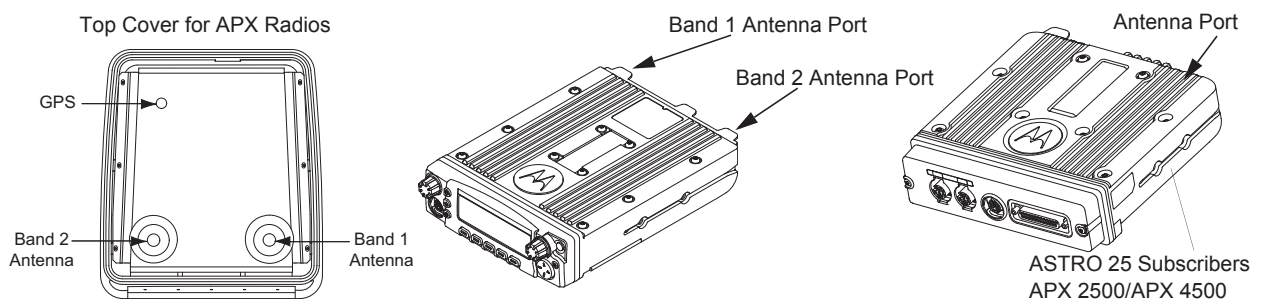
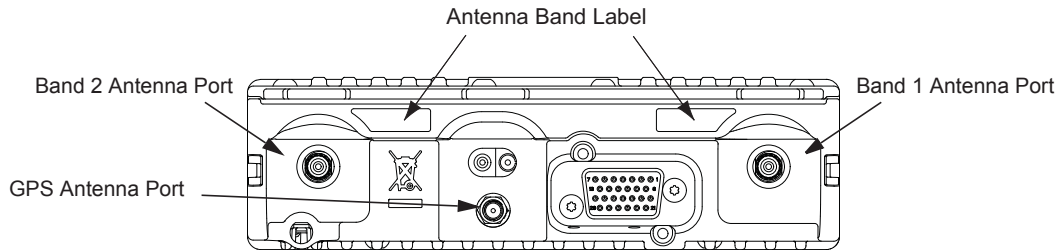
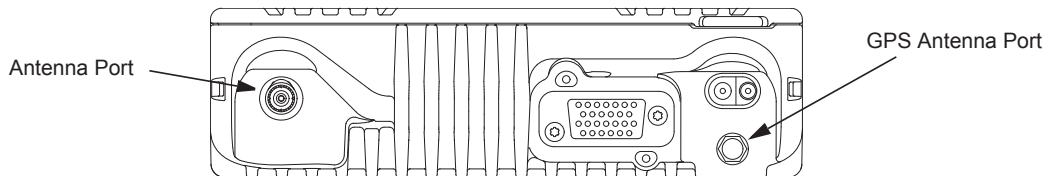
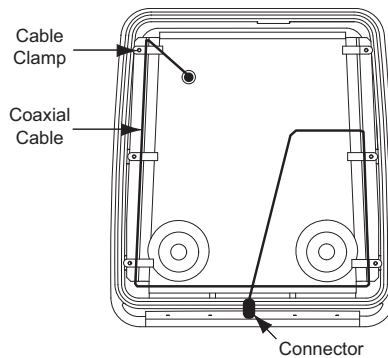

Figure 5-8. Location of Band 1 or Band 2 (Depending on the Antenna Port They Align to)
Figure 5-9. Antenna Band Identification
Figure 5-10. APX 2500/APX 4500 Antenna Band Identification
Figure 5-11. Routing the Coaxial Cable for GPS
5. Locate the two round, depressed areas about 3 inches in diameter in the metal liner near the enclosure hinge. Referring to Figure 5-8, these areas are either Band 1 or Band 2 depending on the antenna port they align to. Refer to band markings on radio for the proper antenna port location. For the GPS antenna, use the 5/8" hole near the front of the housing near the lock.
- **Single Band** – Refer to your APX radio (see Figure 5-9 or Figure 5-10) and see if your single band antenna is in the position of Band 1 or 2. Depending on which location your antenna port is mark a hole in the appropriate antenna position only. Refer to Figure 5-8.
- **Dual Band** – Mark a hole in both the Band 1 and Band 2 Antenna position as seen on Figure 5-8.
- **GPS** – Mark a hole in the GPS Antenna position as seen on Figure 5-8.
11. Reinstall the APX metal liner (see Figure 5-8) with the cable clamps provided in the weather-resistant housing. If installing GPS, the GPS coaxial cable must be fed through the hole in the APX metal liner before the liner can be placed onto the housing. Then route the GPS Coaxial Cable through the cable clamps before tightening the hex screws as installing the cable after that is difficult due to the connector. See Figure 5-11 for GPS Cable Routing.